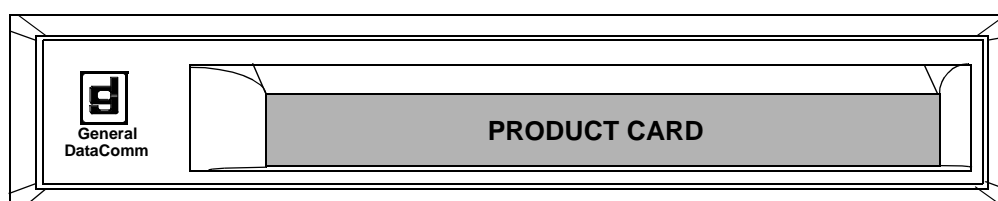

Figure 1-1 Remote Access (RA) 1000 Enclosure
The Remote Access (RA) 1000 (see Figure 1-1) is a stand-alone enclosure that may be installed horizontally, or mounted on a wall.